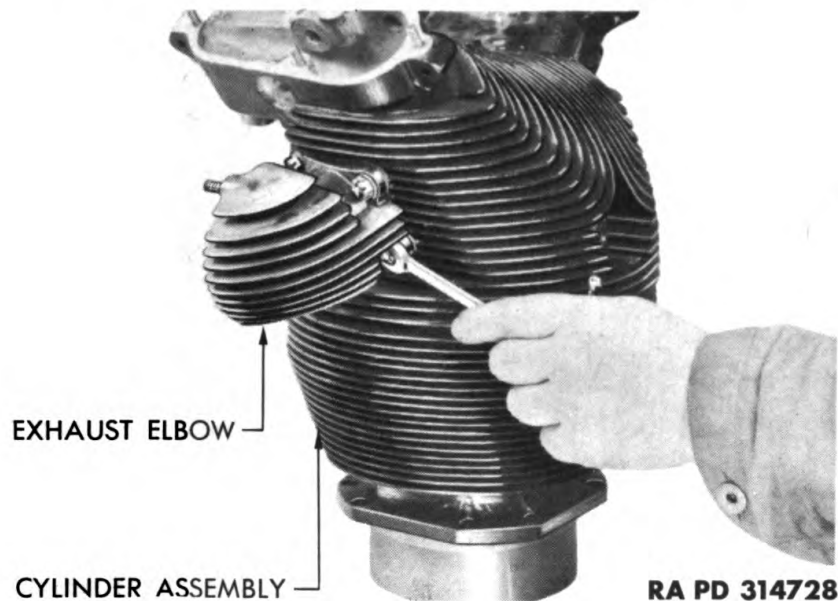

Figure 99 – Removing Exhaust Elbow
b. Remove Exhaust Elbows. Cut and remove safety wire from four nuts securing exhaust elbow to cylinder studs. Remove nuts and flat washers, and lift off exhaust elbow. Remove all exhaust elbows in same way (fig. 99).
(11) **EXHAUST ELBOWS**. Examine exhaust elbows for cracks, erosion, and condition of fins (fig. 99). Replace damaged elbows. Inspect parting surfaces for nicks, burs, and warpage. Remove nicks and burs from parting surfaces with fine stone and polish with crocus cloth. Replace elbow if parting surface is warped.
c. Install Exhaust Elbows. Position elbow on cylinder mounting flange studs, and install four washers and nuts. Tighten nuts securely, and secure with lock wire (fig. 99). Secure the two top nuts together and the two bottom nuts together. Install exhaust elbows on remaining cylinders. Place each cylinder assembly on clean bench, and cover to protect it from dust until installed in engine.